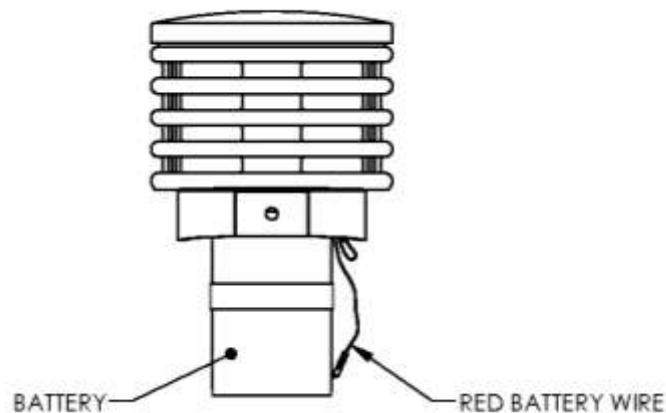

Figure 2.
3. Connect red battery wire to red (positive) battery terminal (see Figure 2).